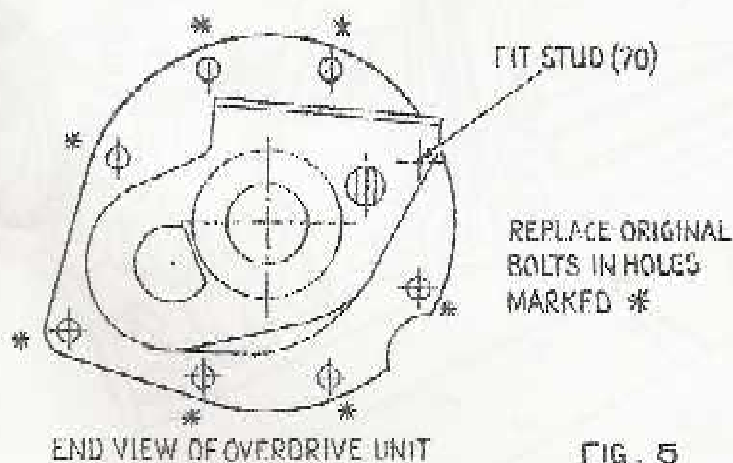

FIG. 5
27. Fit the stud, (70), into the one hole shown.
28. Refit 7 original bolts into the flange holes as shown in Fig 5.